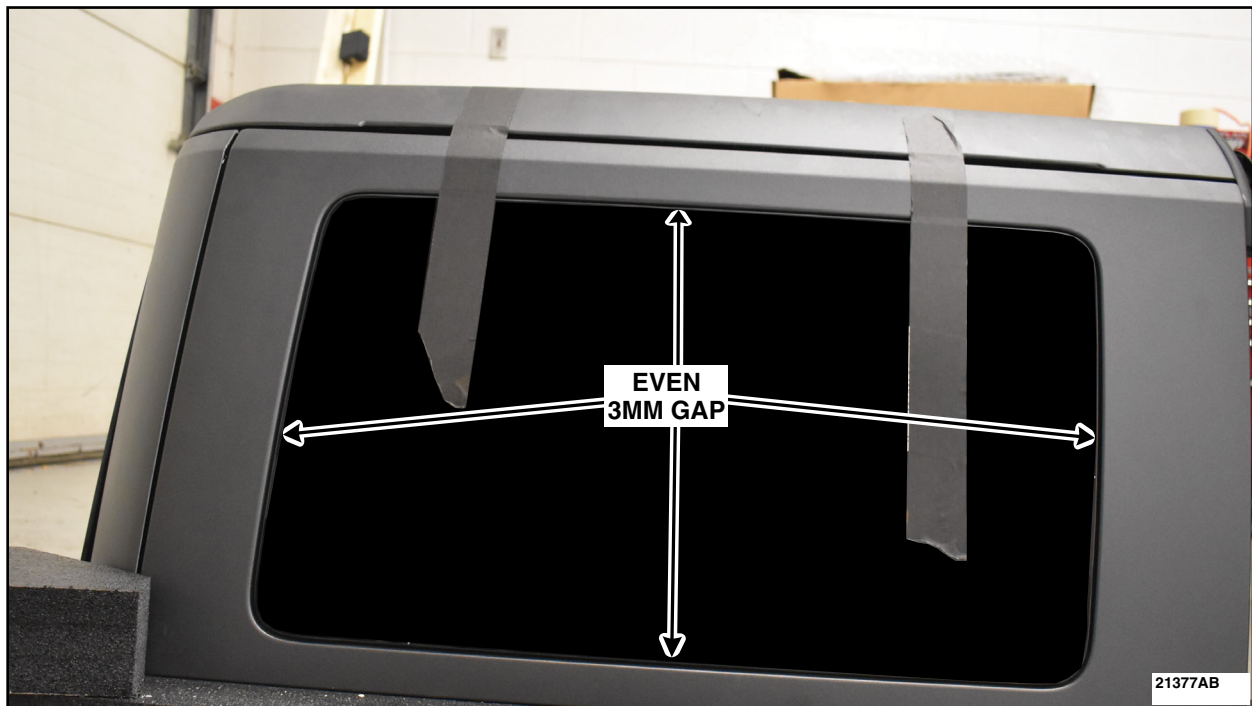

FIGURE 9
7. Using 50mm (2 in) wide masking tape, secure the *new* quarter glass to the *new* hard top rear cap assembly while the urethane cures. Ensure there is an even 3mm (0.12) gap all the way around the quarter glass. See Figure 9.